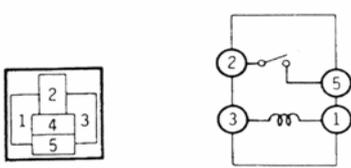

Fig.21-16
- (1) Select a quiet area for testing. Duplicate conditions as much as possible. Switch compressor on and off several times to clearly identify compressor noise. To duplicate high ambient conditions (high head pressure), restrict air flow through condenser. Install manifold gauge set to make sure discharge pressure doesn't exceed 2.070kPa(2.11kgf/cm²).
- (2) Tighten all compressor mounting bolts, clutch mounting bolt, and compressor drive belt. Check to assure clutch coil is tight (no rotation or wobble).
- (3) Check refrigerant hoses for rubbing or interference that can cause unusual noises.
- (4) Check refrigerant charge. (refer to foregoing contents).
- (5) Recheck compressor noise as in step 1.
- (6) If noise still exists, loosen compressor mounting bolts and retighten. Repeat step 1.
- (7) If noise continues, replace compressor and repeat step 1.
12. BLOWER RELAY CONTINUITY CHECK (See Fig 21-16 Table 21-10)